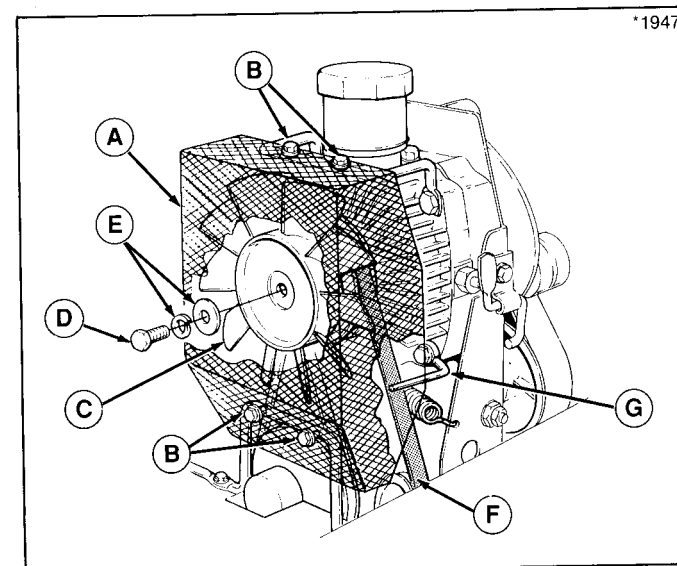

Figure 33. Hydro Pump
2. Remove the screen (A, figure 33) by removing four screws (B; two at top and two at bottom).
3. Remove the fan (C) by removing one screw (D) in center. Keep washers (E) in order for correct reassembly.
4. Slip the belt (F) from the transmission pulley.
10. Note that a tab on inner side of fan (C, figure 33) fits into a hole when fan is installed. Install fan with original hardware.
11. Install screen (A, figure 33) with two screws at top and two screws at bottom.